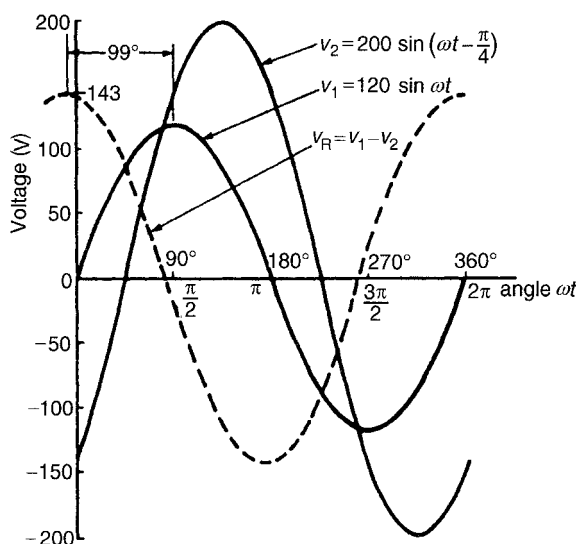

Figure 14.13
- (a) $v_1 = 120 \sin \omega t$ and $v_2 = 200 \sin(\omega t - \pi/4)$ are shown plotted in Fig. 14.13 Care must be taken when subtracting values of ordinates especially when at least one of the ordinates is negative. For example
The resultant waveform, $v_R = v_1 - v_2$, is shown by the broken line in Fig. 14.13 The maximum value of v_R is 143 V and the waveform is seen to lead v_1 by 99° (i.e. 1.73 radians)